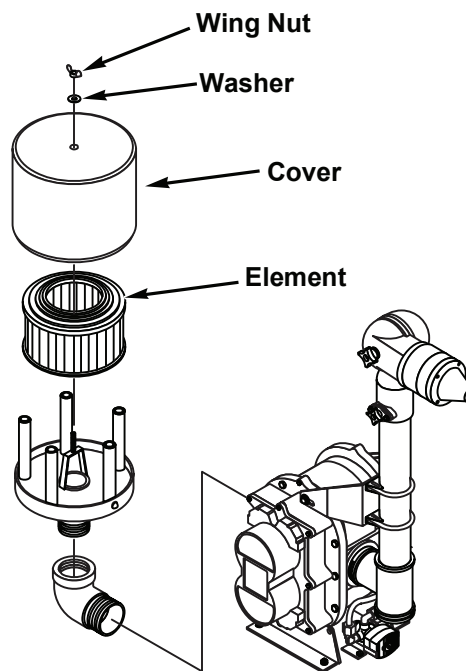

Figure 9- Element Replacement
- Remove and clean the element in the filter-silencer as follows. Reference Figure 9.
8. Remove and clean the filter-silencer element and housing as explained in Maintenance (page 41) section. Reference Figure 9.